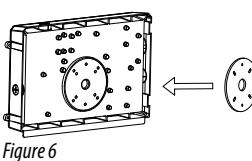

Figure 6
6. Attach the EV A cotton pad to back shell. (Figure 6)